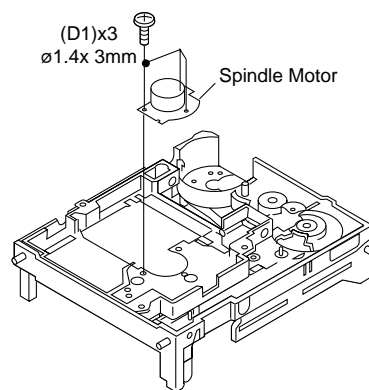

Fig. 7
**Removal of Spindle Motor (Fig. 7)**